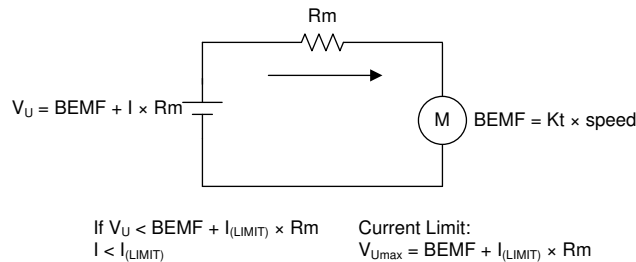

图 7-12. Current Limit
The current-limit function provides active protection for preventing damage as a result of high current. The soft current-limit does not use direct-current measurement for protection, but rather, uses the measured motor resistance (R_m) and motor velocity constant (K_t) to limit the voltage applied to the phase (U) such that the current does not exceed the limit value ($I_{(LIMIT)}$). The soft current-limit scheme is shown in 图 7-12 based on the calculation in 式 4.